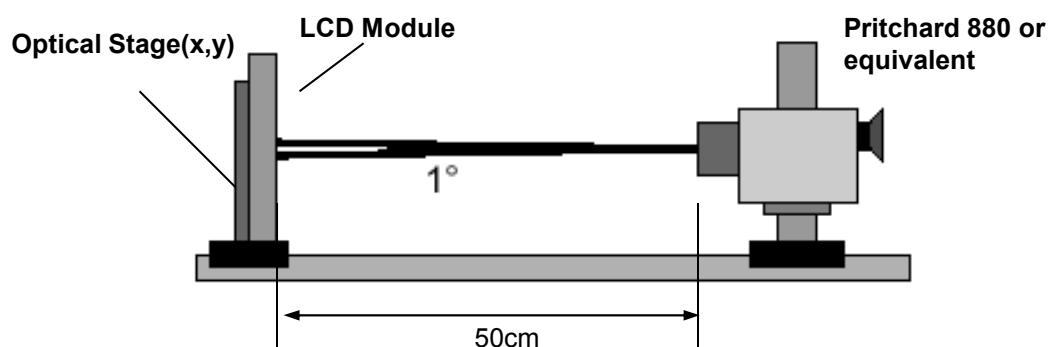

FIG. 1 Optical Characteristic Measurement Equipment and Method
FIG. 1 shows additional information concerning the measurement equipment and method.
2. Surface luminance are determined after the unit has been 'ON' and 1 Hour after lighting the backlight in a dark environment at $25 \pm 2^\circ\text{C}$. Surface luminance is the luminance value at center 1-point across the LCD surface 50cm from the surface with all pixels displaying white. For more information see the FIG. 1.